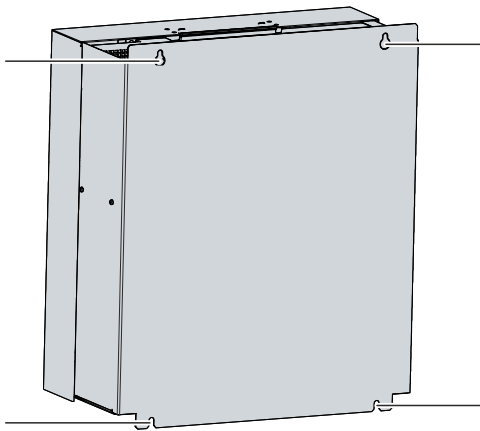

Fig. 15: Control cabinet installation
2. Hang the PC on the screws at the marked points of the mounting concept (see Fig. 15).